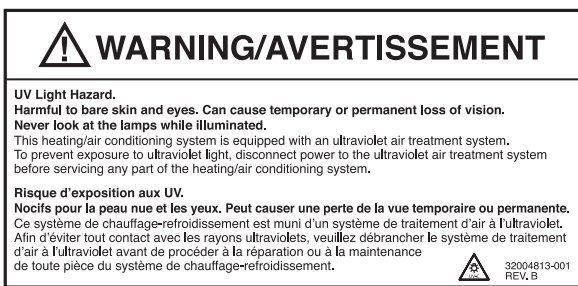

Fig. 8. HVAC maintenance UV safety label.
- 19. Adhere the HVAC maintenance UV warning label to the HVAC equipment (selected in step 17) such as the furnace, air cleaner or humidifier. See Fig. 8.